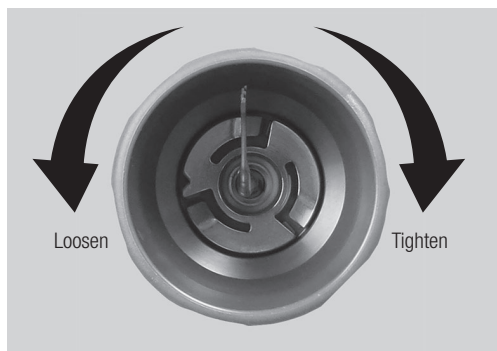
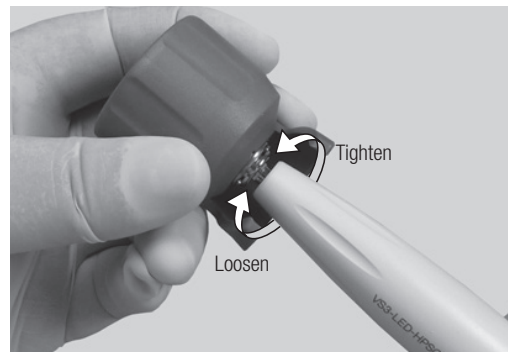

Fig. 17
Fig. 18
- 3) Rotate the wrench in the (clockwise) direction, (Fig. 17 and 18) until it makes a click sound and cannot rotate any further.
* To remove the Tip, rotate the wrench in the (counter-clockwise) direction shown in Fig. 17 and Fig. 18.